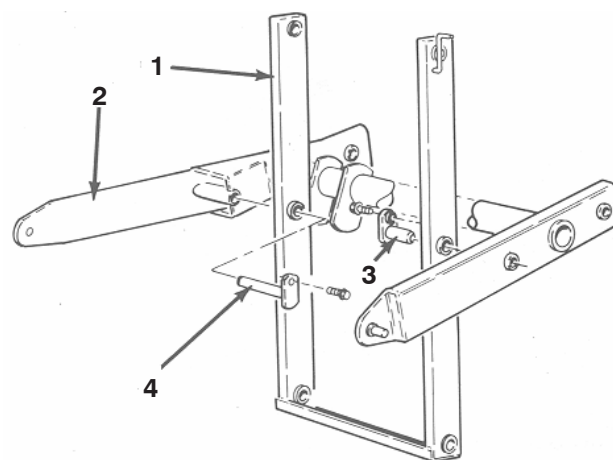

Figure 14
12. Install the short and the long welded mounting pins through the arm assembly and the main lift arm assembly (Fig. 14). Secure with 1/4–20 x 3/4” lg. self tapping screws.